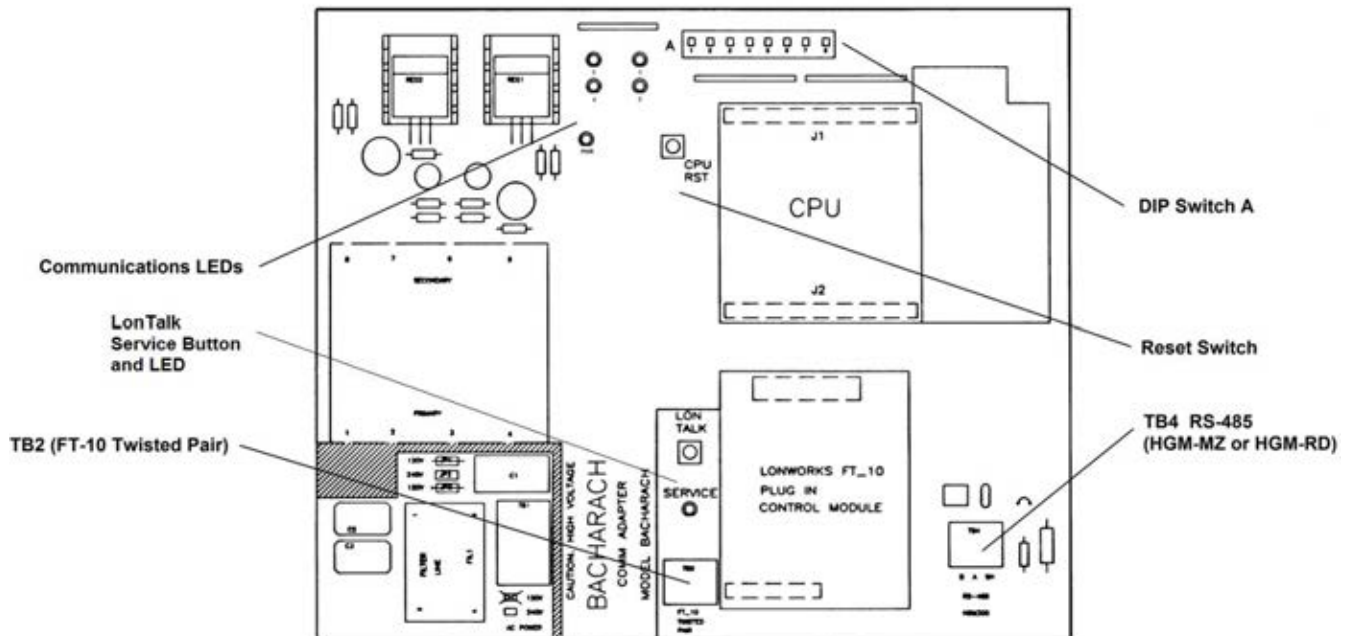

Figure 1 – HGM-MZ-to-LonWorks FT-10 Communications Adapter
1. If the network management software supports identification by service PIN, the adapter's service pushbutton (directly above the FT-10 twisted pair terminal block—see Figure 1) can be pushed when the network management software requests it. This causes a "here I am" message to be broadcast which should be received by the network manager.